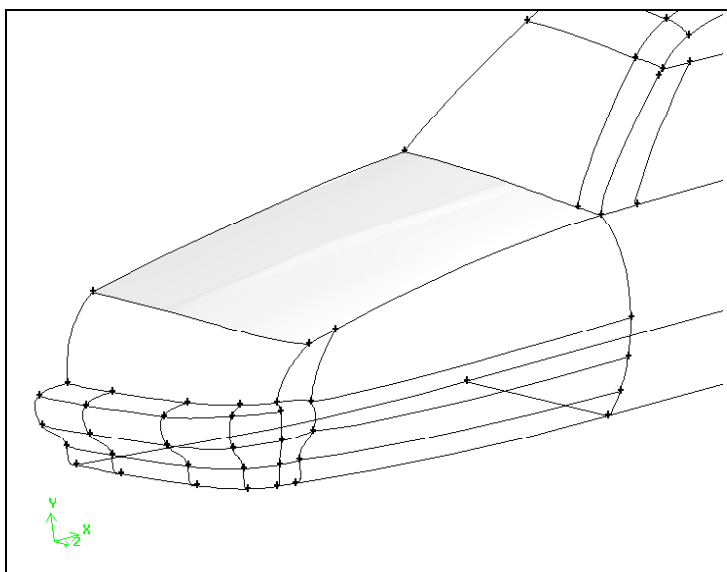

Figure 6-6: Three faces merged on hood of sedan
- d) Click **Apply** to merge the faces as shown in Figure 6-6.